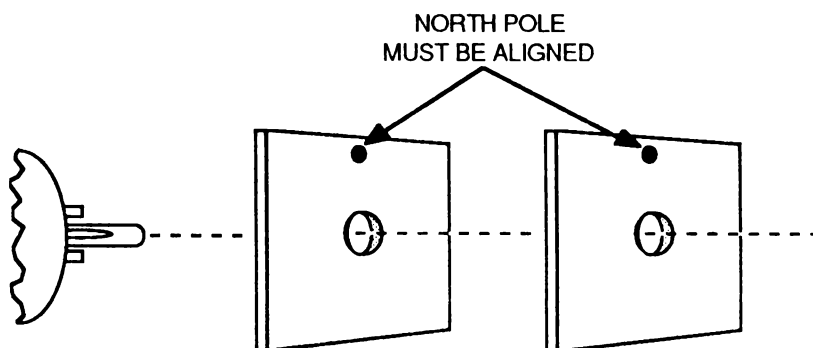

FIGURE 8
4. If the desired raster cannot be obtained, add a second magnet to the same yoke mounting pin. Both magnets must be aligned as in Figure 8, and then rotated simultaneously.